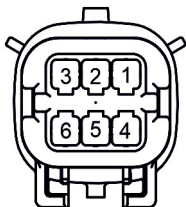

Fig. 3 Escort DGV-200: MOLEX Pinout
7.1.6 Connect the sensor to the GPS tracker of the unit as per the wiring diagram in Figure 3.